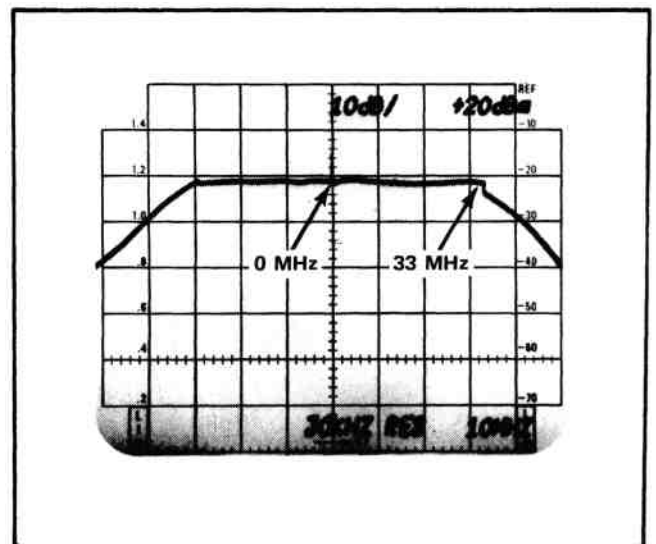

Fig. 2-4. Sideband analyzer response at baseband.
The above set-up, possibly with minor adjustments, should result in a display of the output of the tv transmitter when modulated by the 1405. The display should appear similar to Fig. 2-4.
3. Tune both units to zero and verify that the 1405 is producing a flat response curve from 0 MHz to at least 15 MHz (refer to Fig. 2-4).